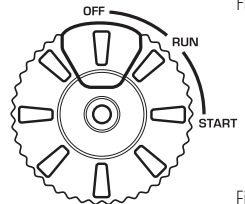

Fig. 3
5.2 For electric start, press the red button on the multifunctional engine switch (fig. 3)
6. After starting the engine, turn the Multifunctional engine switch to the "RUN" position (fig. 3).
8. For manual start, pull the manual starter until a slight resistance is felt, then pull it toward you relatively sharply. Slowly turn the manual starter by hand, do not release it abruptly. For electric start, press the red button on the multifunctional engine switch (fig. 3).
9. After starting the engine, turn the Multifunctional engine switch to the “RUN” position (fig. 3).